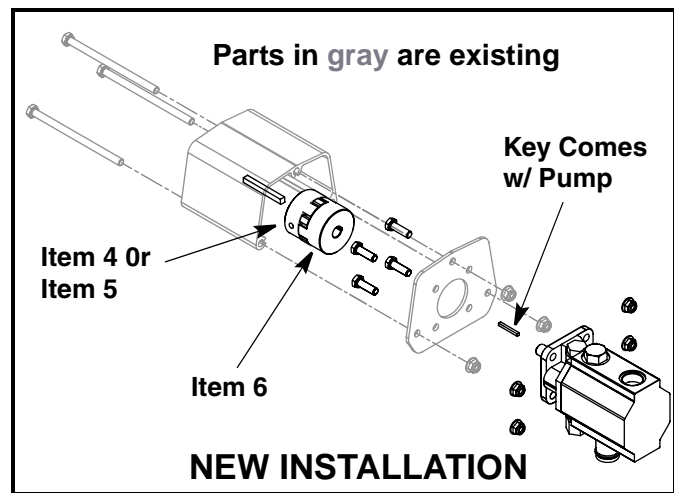

FIGURE 3
New Pump Installation: (Refer to Figure 3)
16. Select the appropriate new Coupling Half to match the crankshaft diameter, Item 4 for a 1" diameter crankshaft or Item 5 for a 7/8" diameter crankshaft. Discard the unused alternate coupling. See Figure 3.